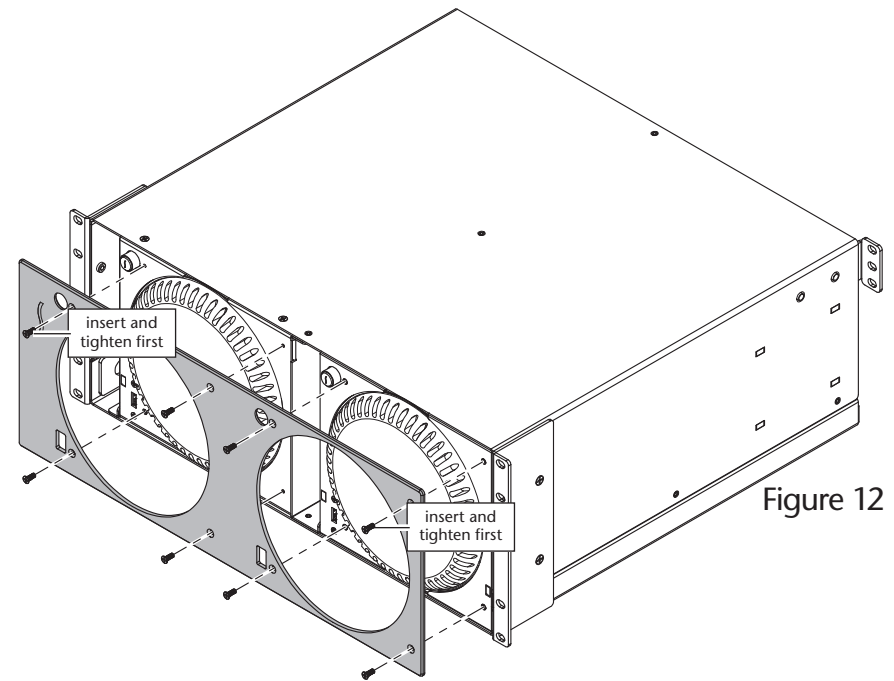

Figure 12
3. Using two of the screws you removed previously, secure the front panel to the rackmount enclosure, inserting the screws into the holes next to the power switches. Verify the power switches operate smoothly (Figure 12).
4. Using the remaining screws, secure the faceplate to the rackmount enclosure (Figure 12).